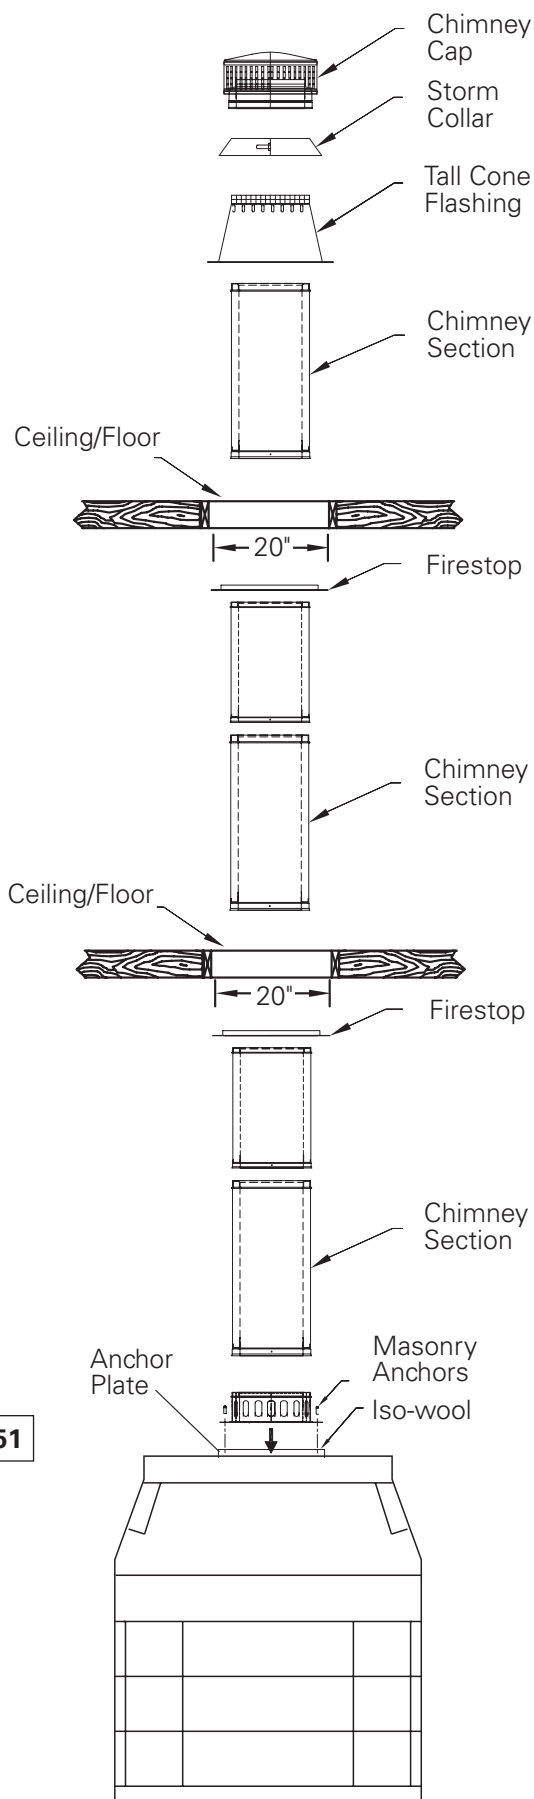

FIGURE 51
5. Install Firestop: A Firestop is required on each floor penetration in multistory installations. Building Codes require a Firestop at every floor/ceiling level including where the chimney penetrates the attic. **Figure 51** shows a typical 2 story installation with an attic.
NOTE: A Firestop is not installed where the chimney penetrates through the roof. The Firestop is installed on the underside of the ceiling/floor framing and secure in place with nails or screws. **(Figure 51)**